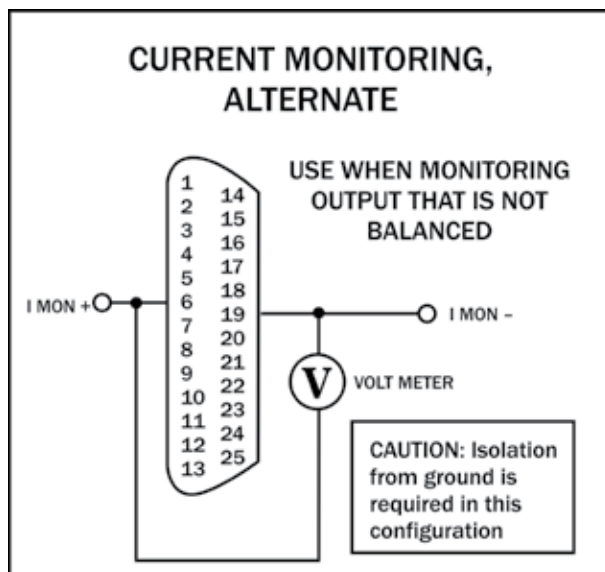

Figure 7.11 – Remote Current Monitoring, Alternate Method
**Method:** Connect a voltage meter to monitor the output current being produced by the amplifier. Connect across PIN 6 (IMON+) and PIN 19 (IMON-). See **Figure 7.11**.